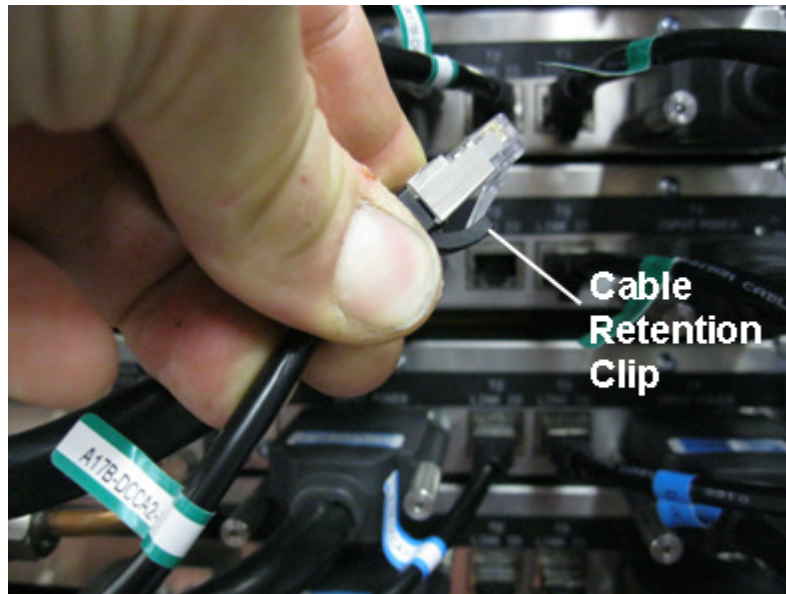
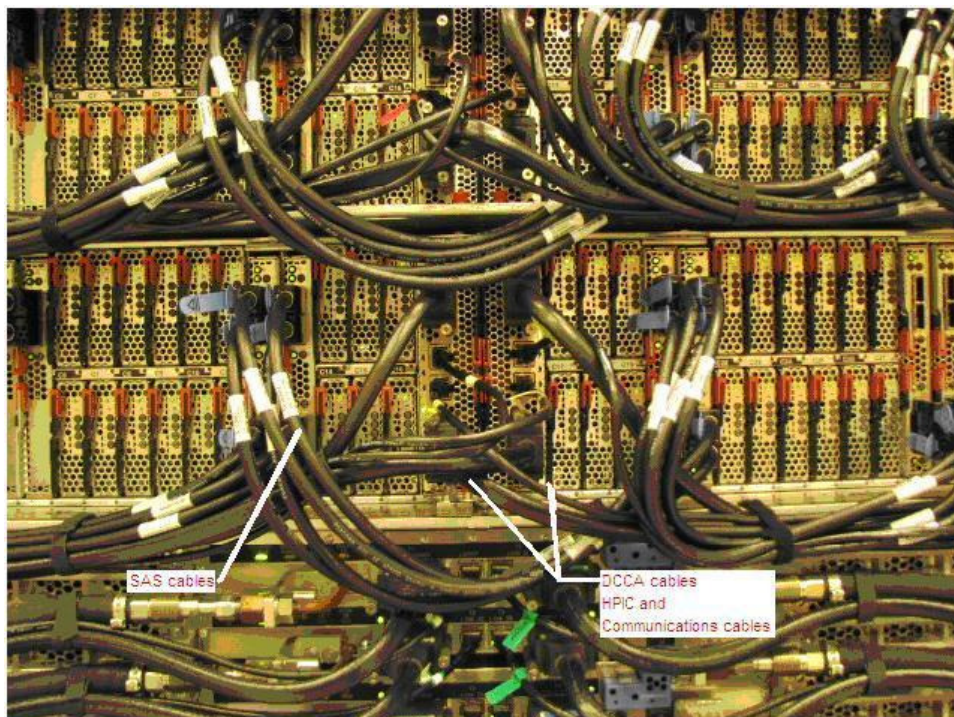

Figure 20: DCCA Service Network Communications (E/NET) Cable
Figure 21 DE cabling
STEP 23 Disconnect the four DCCA Service Network Communications (E/NET) cables from both DE DCCAs by depressing the “retention clip” (see Figure 20 and Figure 21). **All cables should be labeled to help when re-cabling the DE.** If any of these cables are not labeled, label them now.